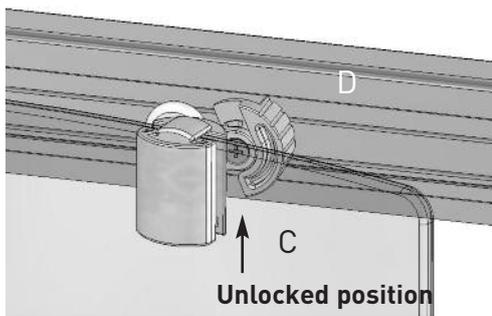
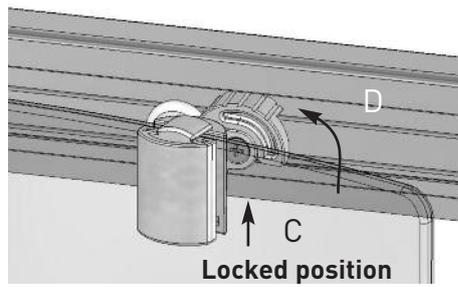

Figure a15
Figure a15i
Figure a15ii
15. Position one of the Doors (C) into the Top Rail (D) with the locking cams in the unlocked position (**Figure a15**). Rotate the cam until it clicks into the locked position (**Figure a15i**). At the bottom of the Door push down on both bottom door guides until they click under the lip on the Bottom Rail (**Figure a15ii**). To fit the remaining Door in the Top Rail please repeat procedure.